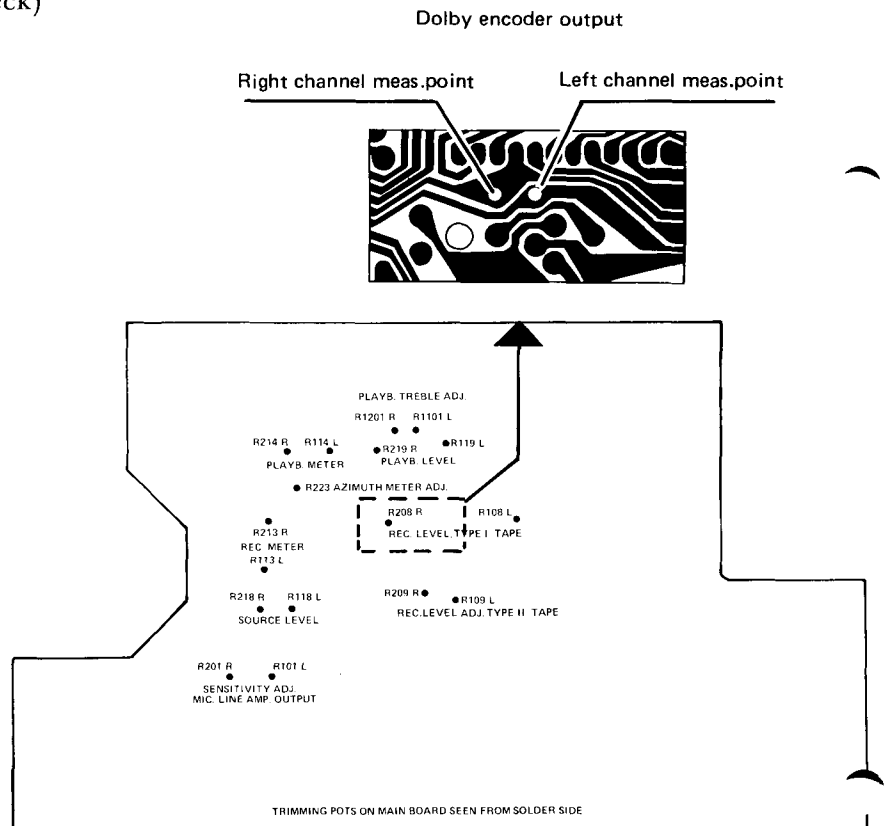

Figure 1 Trimming pots. and Dolby encoder measurement points
- Adjust the SENSITIVITY ADJ. pots. R101-R201 to obtain 775 mV measured on a voltmeter connected to the Dolby encoder output, see Figure 1.